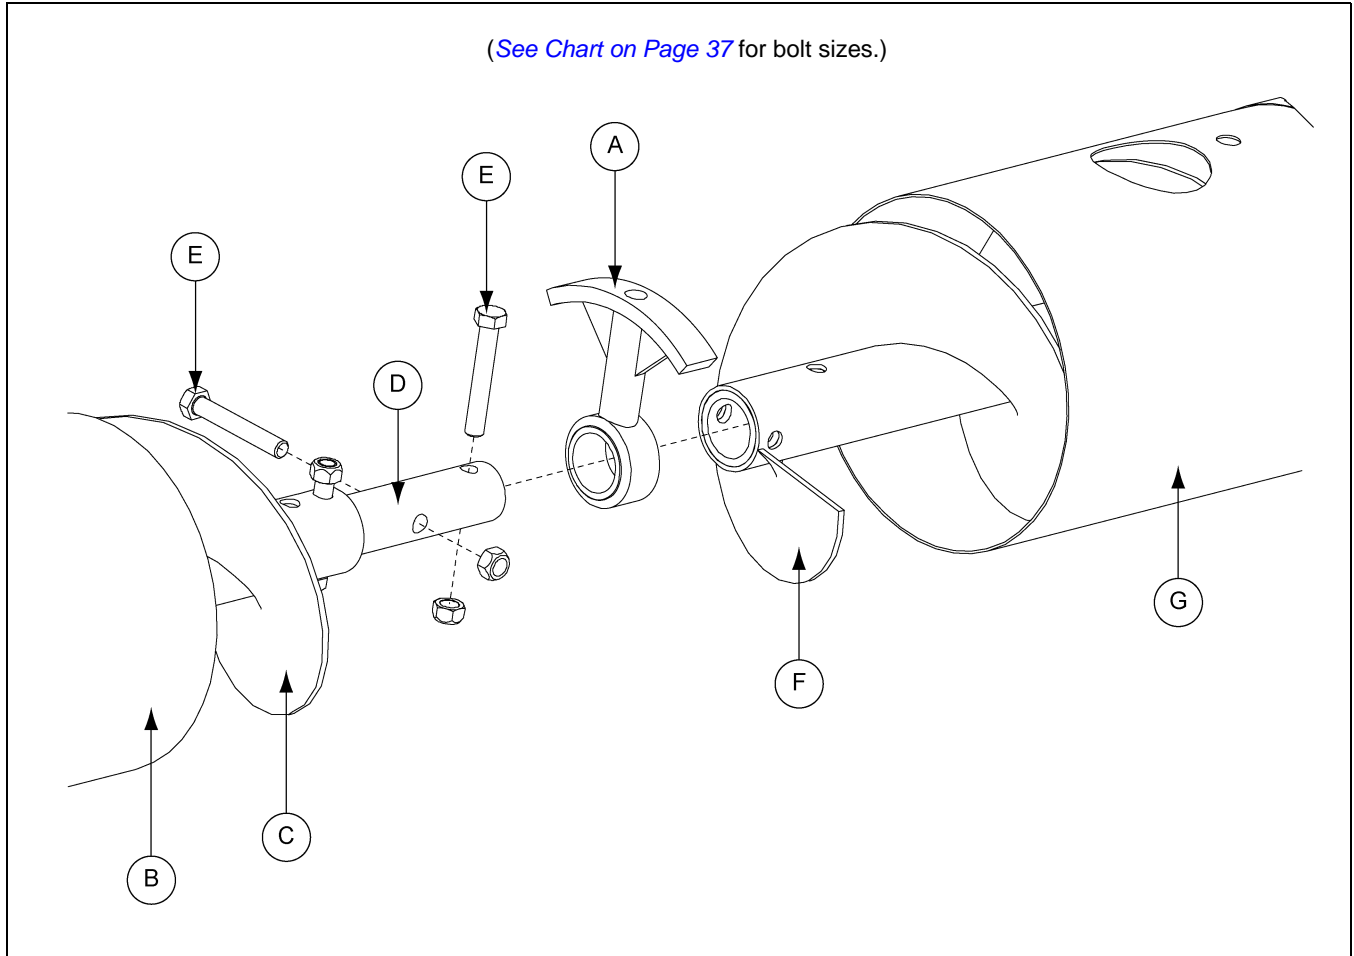

Figure 4R
- Slide hanger bearing (A) onto connecting stub (D), followed by extension flight (F). Bolt extension flight (F) to connecting stub (D) using assigned hardware. (See Chart on Page 37 and Figure 4R.)